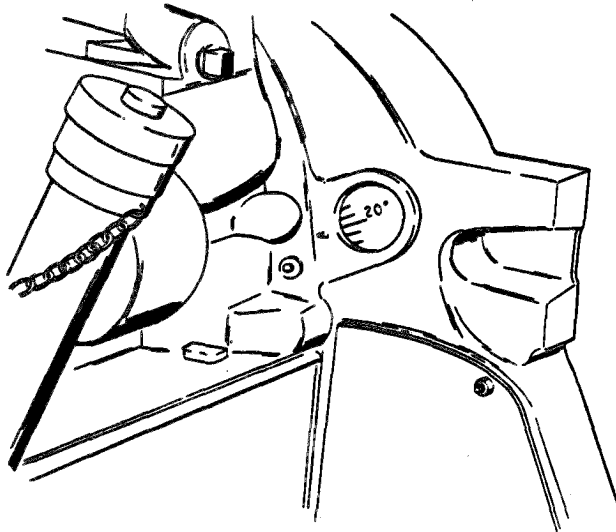

Figure 3-42. Flywheel Timing Marks
a. Rotate engine until required timing mark on flywheel aligns with mark on flywheel housing as shown in figure 3-42.